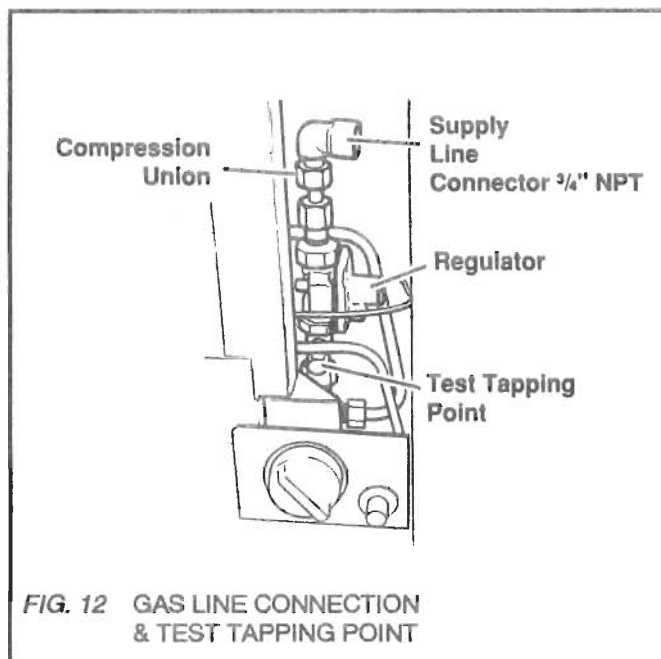

FIG. 12 GAS LINE CONNECTION & TEST TAPPING POINT
- 8.2. Route the supply gas line to the inlet connector attached to the regulator inlet (see fig. 12). **Note:** Pressure testing the line for leaks may need to be performed before line is connected to the appliance - see section 9.
9.3. The burner manifold pressure is controlled by a built-in non-adjustable regulator. The manifold pressure must be between 3.8" w.c. and 4.2" w.c. The manifold pressure should be checked at the pressure test point which is located immediately downstream of the regulator (see fig. 12). The pressure check should be made with the appliance burning and the control set at position 3.